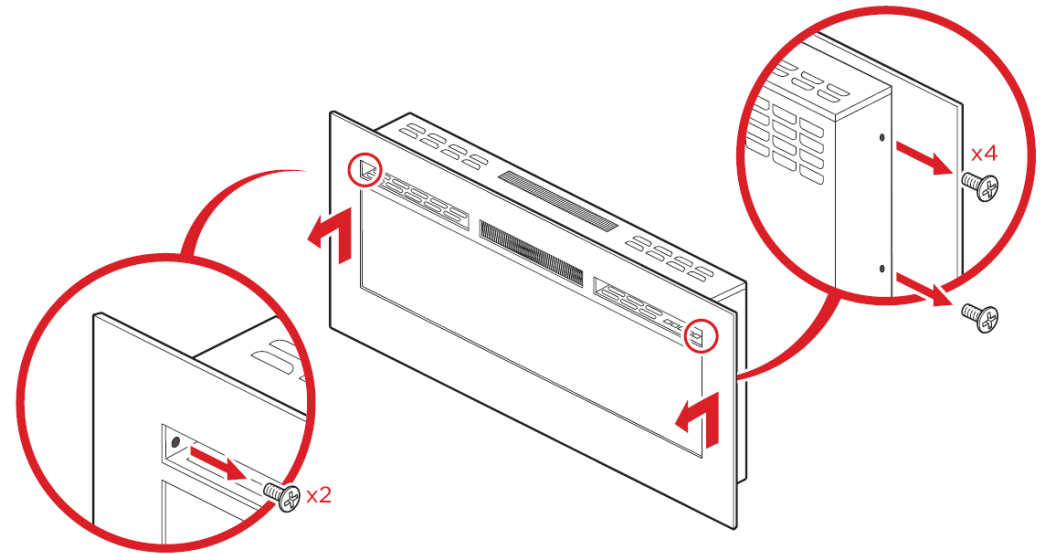

Fig.2
- For optimum viewing, mark the top four screws (fixing positions) on the wall in accordance with the recommended fixing dimension; See Fig.2
Remove two screws from the front of the heater. Remove the tempered glass by lifting it from the lugs on the sides. see Fig.2